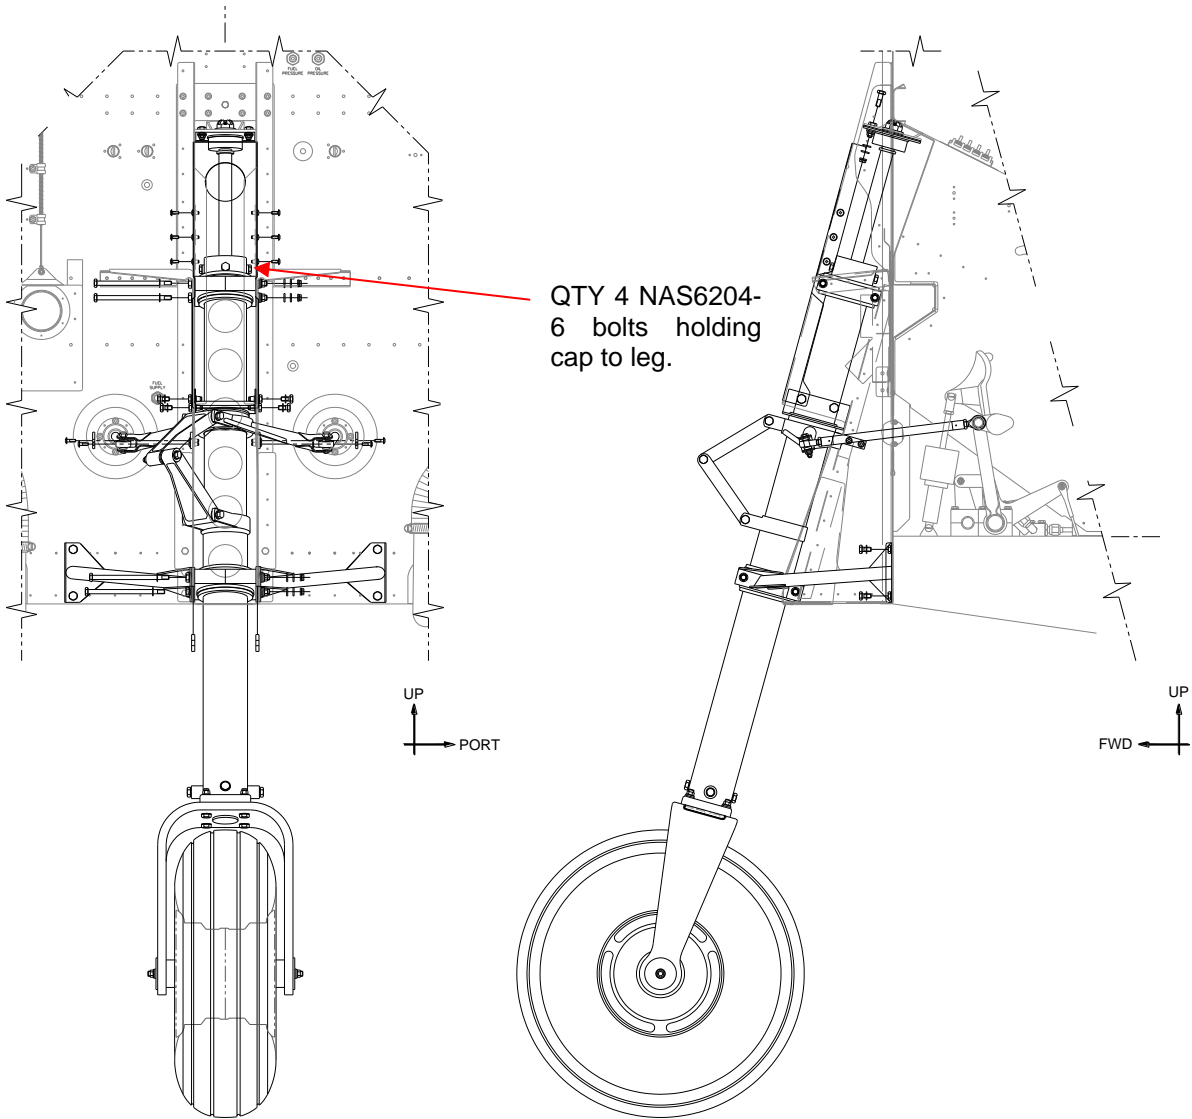

Figure 1: Nose Leg Installation
3. Remove the 4 bolts holding the top cap of the leg into the nose leg assembly (Figure 1; for aircraft up to S/No. 50, QTY 3 AN4 bolts are used at this location).